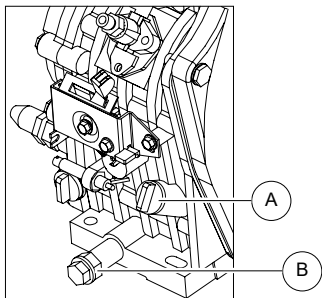

Figure 3-6. Changing Engine Oil
See **Figure 3-6. Changing Engine Oil**, Take the oil cover (A) off. Remove the oil drain plug (B) when the diesel engine is still hot. Be careful of hot oil and hot engine as you may get burned. The oil drain bolt (B) is located at the bottom of the cylinder. After draining the oil, put the bolt back and tighten it. Then fill with the proper engine oil to the proper level.